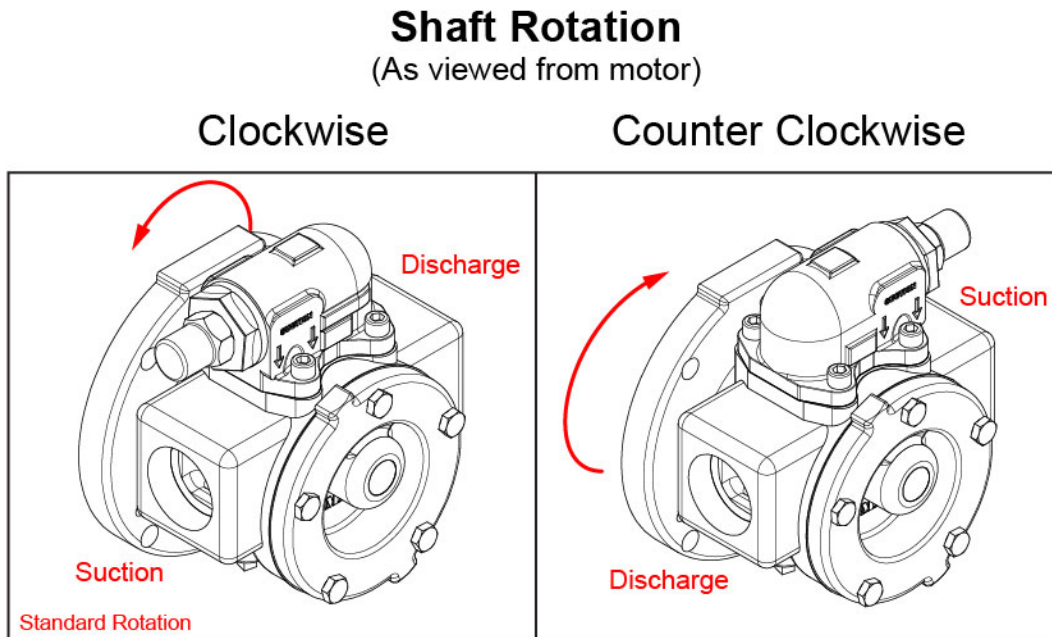

Figure 6-1: Valve configurations
There are two different valve configurations for the VV75 pump. Refer to Figure 6-1 for the different configurations. The configurations are dependent on shaft rotation. The shaft rotation is important to understand when installing the internal relief valve onto the casing. The internal relief valve must be positioned correctly or the valve will not work properly, potentially damaging equipment, cause server injury or potentially cause death to personnel.
The pump can operate equally well in a clockwise or counterclockwise rotation. The desired port to be suction determines shaft rotation. Port closest to where pumping elements (gear teeth) come out of mesh is suction port. If fitted with a pressure relief valve, ensure the adjustment knob is nearest the suction port. See Figure 6-1 and Figure 2-1 for illustration.
6. Correct pump rotation as desired, see Figure 6-1 on page 9.
3. If an internal relief valve is installed, make sure the threaded adjustment side is closest to the suction side of the pump. See Figure 6-1 on page 9 for illustration.